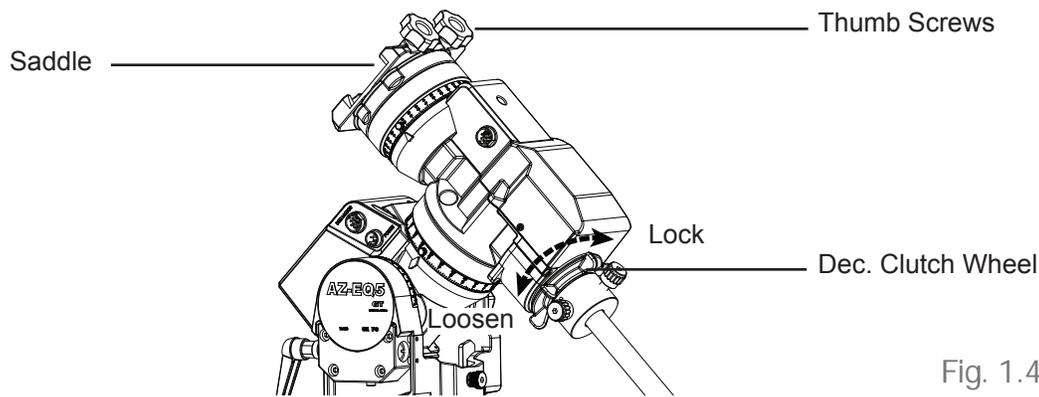

Fig. 1.4
2. Release the Dec. clutch wheel and rotate the Dec. axis until the two thumb screws on the saddle are facing upward and the dovetail groove is leveled (Fig. 1.4). Tighten the Dec. clutch again.